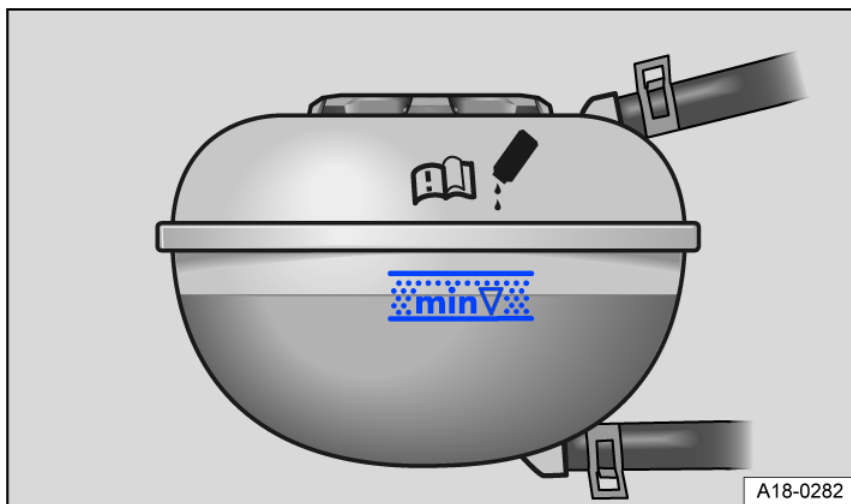

Fig. 190 In the engine compartment: markings on the engine coolant expansion tank.
1. When the engine is cold, check the coolant level using the markings on the side of the engine coolant expansion tank fig. 190. The coolant level must be between the markings.
After topping up the engine coolant, the coolant level must be between the markings on the coolant expansion tank fig. 190.